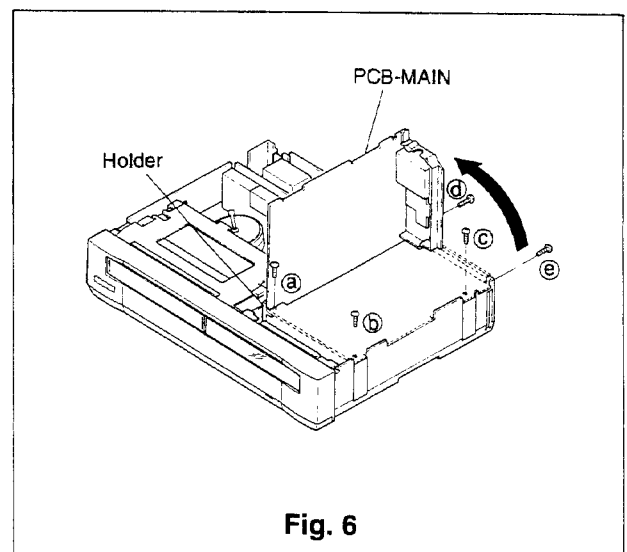

Fig. 6
- B. Remove five screws (Ⓐ ~ Ⓔ), as shown in Fig.6.